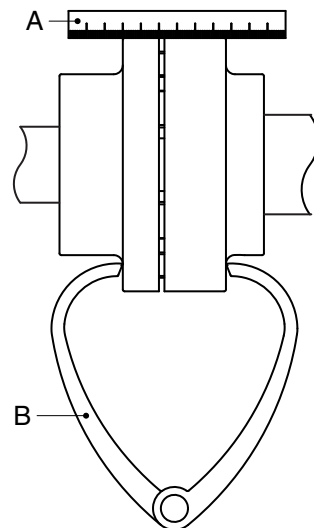

Figure 4: Aligning the coupling by means of a ruler and a pair of outside calipers.
- 1 Place a ruler (A) on the coupling. Place or remove as many copper shims as is necessary to bring the electric motor to the correct height so that the straight edge touches both coupling halves over the entire length, see figure 4.
- 3 Check the alignment once again using a pair of external callipers (B) at 2 diametrical opposite points on the sides of the coupling halves, see figure 4.